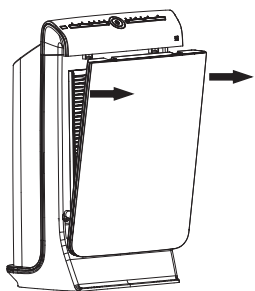

Fig 1
1. Take away the front panel board by holding your hands on the top two sides and pull it out. (Fig 1)